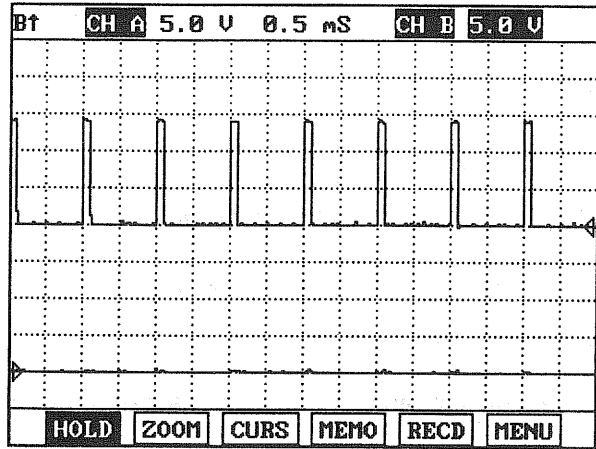

Fig.2
- Fig. 2) Waveform when variable swirl valve opened at above 3000RPM. Terminal 1 is (-) and 2 is (+).